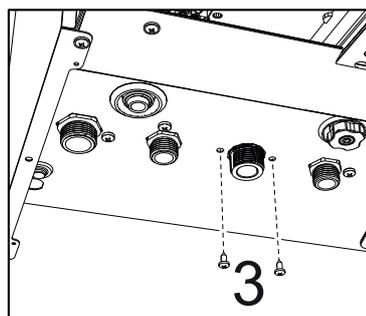

fig. 54 -
- Loosen the screws "3" ("fig. 54 -")